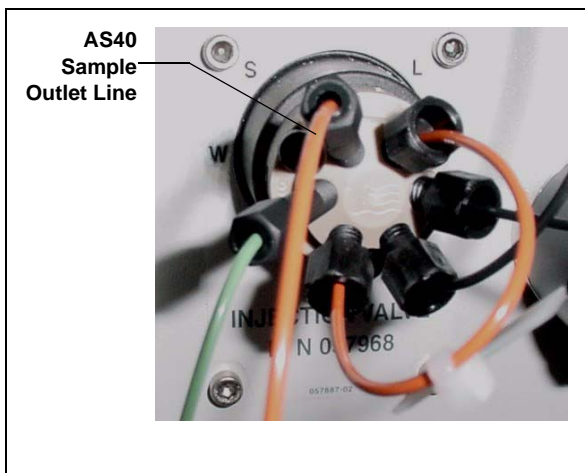

Figure 108. ICS-2000 Injection Valve
3. Connect the outlet line from the AS40 to port **S (5)** of the injection valve (see Figure 108).